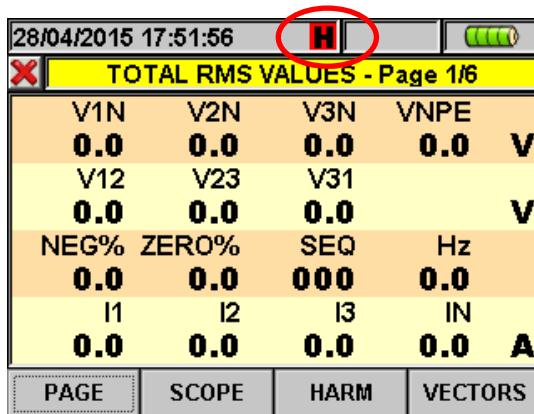

Fig. 4: HOLD function active at display
- ✓ **HOLD:** To block the value updating in all real time screens and also during a recording operation. “H” symbol is shown at display by any pressing of key as for Fig. 4